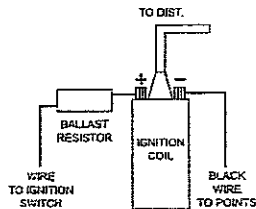

FIGURE 2
5. The red wire from the Ignitor should be connected to the positive (+) side of the coil, or a 12-volt switching power source. (See Figure 2 & 3). The black wire must be connected to the negative (-) side of the coil.
12. For installations that do not use a primary ballast resistor or resistance wire, connect the Ignitor red wire to the positive (+) side of the ignition coil. (See Figure 2).